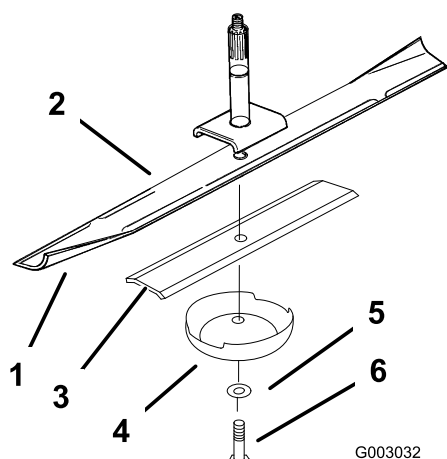
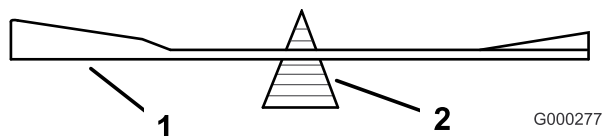

Figure 46
Figure 48
2. Remove the blade bolt, blade stiffener, washer, and blade from the spindle shaft (Figure 46).
2. Check the balance of the blade by putting it on a blade balancer (Figure 48). If the blade stays in a horizontal position, the blade is balanced and can be used. If the blade is not balanced, file some metal off the end of the sail area only (Figure 46). Repeat this procedure until the blade is balanced.
1. Install the blade onto the spindle shaft (Figure 46).
Important: The sail part of the blade must be pointing upward, toward the inside of the mower to ensure proper cutting (Figure 46).
2. Install the blade stiffener, flat washer and blade bolt (Figure 46).